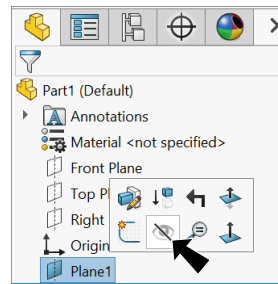

Fig. 4
Step 1. **Hide Plane1** . To hide, click **Plane1** in the graphics area and **Hide** on the context toolbar, **Fig. 4**.